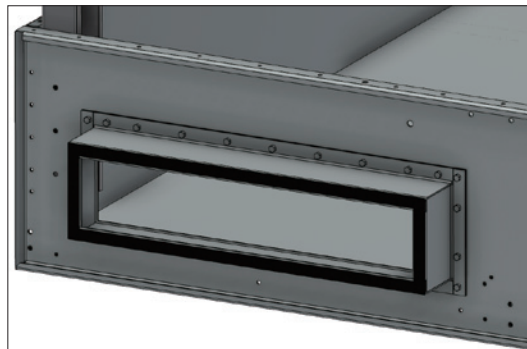

Figure 5. Flume Box Butyl Sealer Tape Application
2. Wipe down the mating surface on the outer, protruding end of the flume box and apply a layer of flat butyl sealer tape around the face of the flange over the centerline of the holes. Do not overlap or stretch the butyl sealer tape too thinly at the corners. When it is necessary to splice the butyl sealer tape, be sure to press the two ends together to form a smooth, continuous strip. See **Figure 5**.